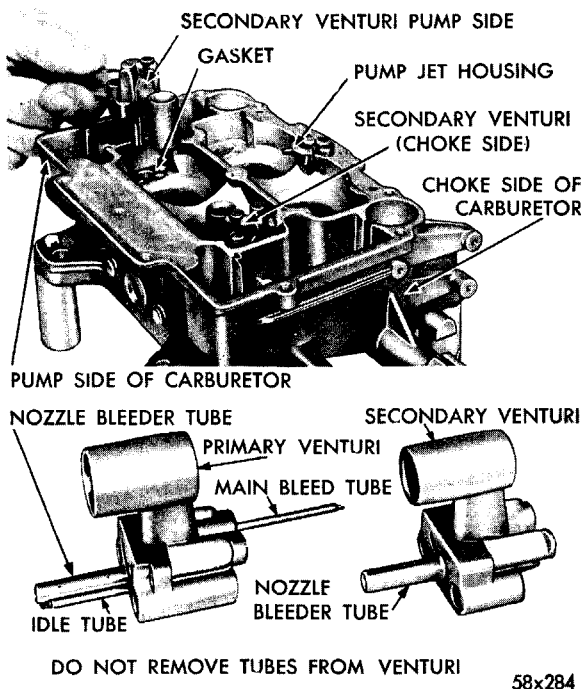

Fig. 6—Removing or Installing Secondary Venturi
(5) Remove the screws that attach the secondary venturi (choke and pump side) to the main body. Lift the secondary venturi assemblies straight up and away from the body, as shown in Figure 6.